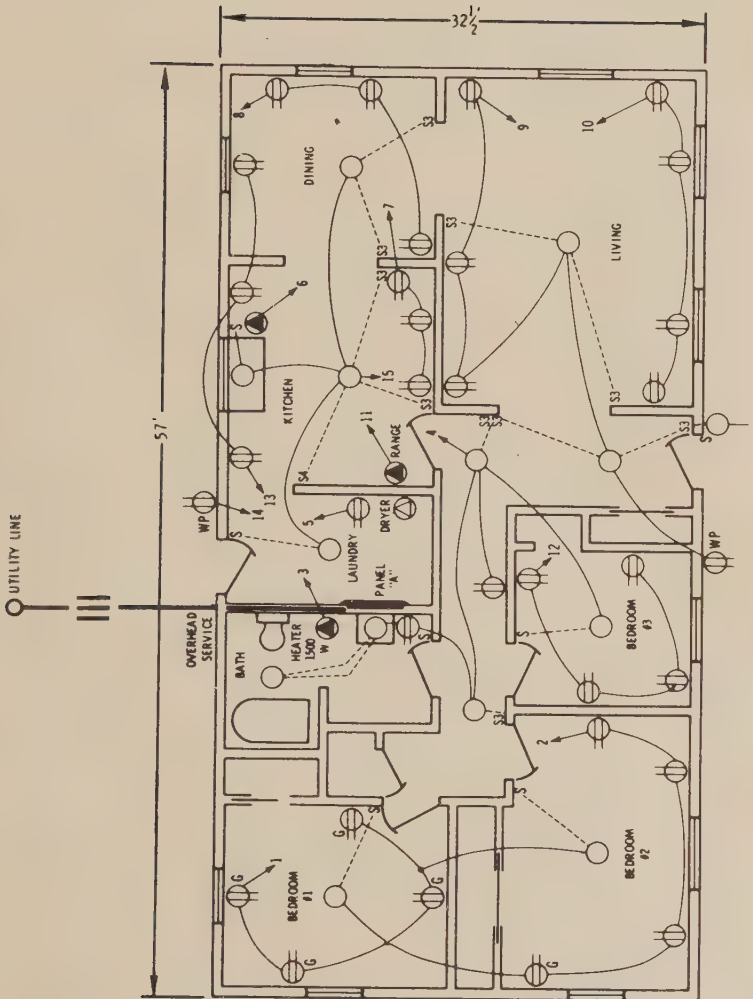
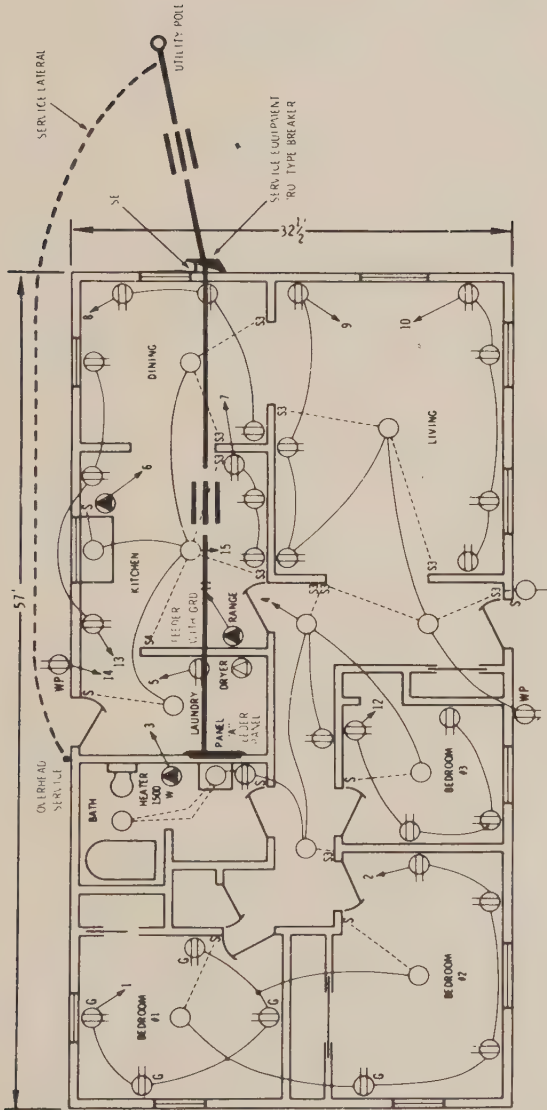

Fig. 119. Service entrance location.
Fig. 120. Two methods of installing service when the utility pole location does not fit equipment location.
A summary of what has been covered in the rest of this book might prove to be helpful. In Chapter 2, the BASIS FOR LOAD CALCULATIONS was covered and in Chapter 3, the ACTUAL CALCULATIONS FOR DWELLINGS was covered. Fig. 119 shows a typical layout for wiring a home which is shown as Fig. 6A in Chapter 2. These drawings will be used in this summary as well as the load calculations which were covered in Chapter 2 of this book. Not only will the minimum Code requirements be used, but there will also be suggestions for a more adequate wiring job and additions in the future for additional usage.
2. A utility must supply service to the residence, therefore they must be considered as to where power lines are located, etc. Thus, one must consult with the utility serving, as to location. If supplied by a service lateral (underground service), the problem eases to quite a degree. The service equipment is at a very good point, if the utility can serve from the point as shown in Fig. 119.
Take a look at Fig. 120. Here the utility line is at the end of the home, which leaves us with several alternatives:
1. The main disconnect and overcurrent device may be located at the end of the house, on the outside in a raintight enclosure (RO) and a feeder circuit (3-wire with equipment grounding conductor) run to the branch circuit panel "A".
2. A service lateral may be run as shown by the dotted or dashed lines in Fig. 120.
Most dwellings have the branch-circuit overcurrent devices in the service equipment enclosure as would be the case in Fig. 119. Then in Fig. 120, we have the service equipment outdoors at the end of the house, so the conductors to the feeder panel will be feeders and consist of 2- phase conductors; 1- neutral conductor and 1- green or bare equipment grounding conductor, sized according to Table 250-95 of the NEC and also appears on page 85 of this book.